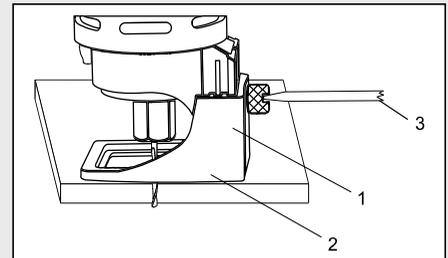

Fig. 7
1. Adjust the freehand cutting guide depth by loosening the depth gauge locking screw (1) and moving the cutting guide foot (2) up or down as required (Fig. 7).
4. Adjust depth of freehand cutting guide as shown in Fig. 7.
- Install the cutting bit, assist handle and freehand cutting guide as outlined in Fig. 1, 2 & 3. Adjust depth of cut so the bit will protrude 1/8" beyond the thickness of the drywall (Fig. 7).
2. Adjust cutting bit depth to 1/8" longer than the thickness of the material to be cut (Fig. 7).